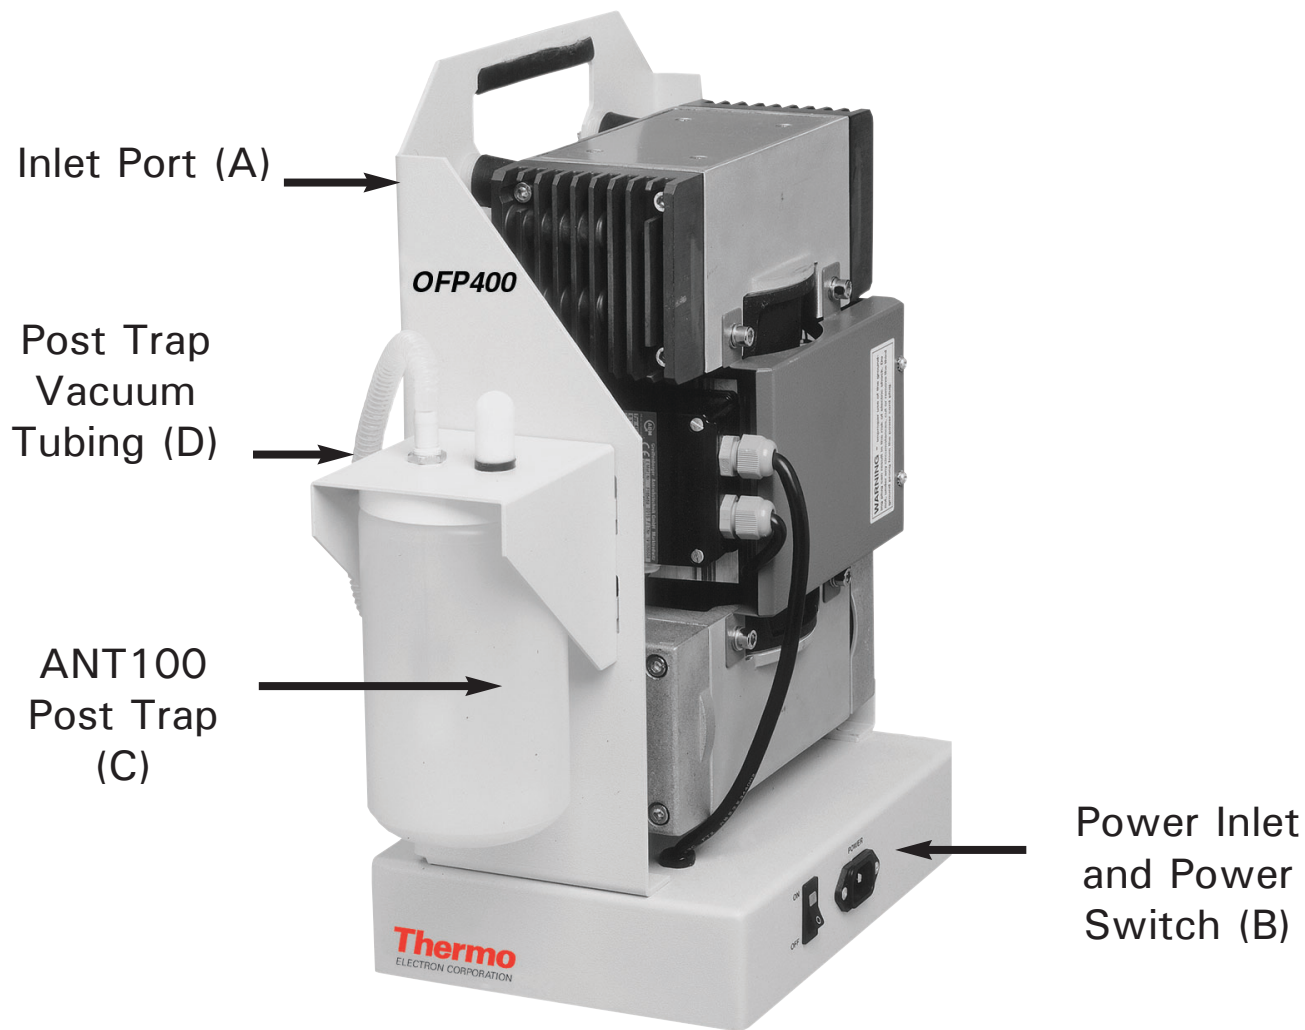

Figure 1. OFP400 Oil-free Vacuum Pump
- Locate the vacuum inlet port (Item A, Figure 1). This identification will help determine the placement of the OFP400 next to the SpeedVac® concentrator, cold trap RVT4104 or RVT400 or any other component that requires vacuum.
- Connect the vacuum tubing line (see Figure 1 note) to the vacuum inlet port (A) of the OFP400. Connect the free end of this tubing to the cold trap RVT4104, RVT400 or other component.
- Locate the mains plug (Figure 1, Item B) on the side of the OFP400 and install the supplied line cord. Plug the line cord into the appropriate voltage source (115 volts or 230 volts).
- Locate the main power switch on side of unit (Figure 1, Item B). Turn pump ON or OFF.